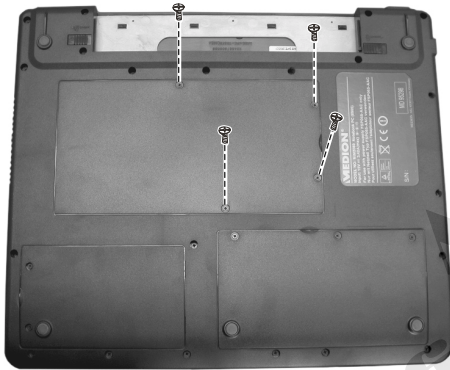

Figure 2-6 Remove the four screws
2. Remove the four screws fastening the CPU cover. (Figure 2-6)